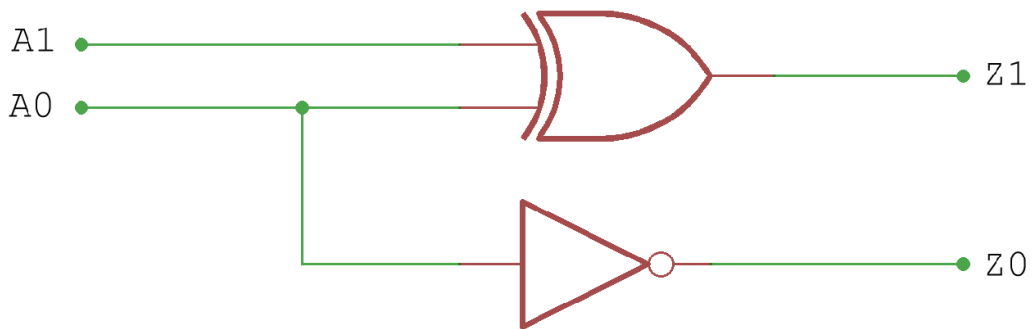
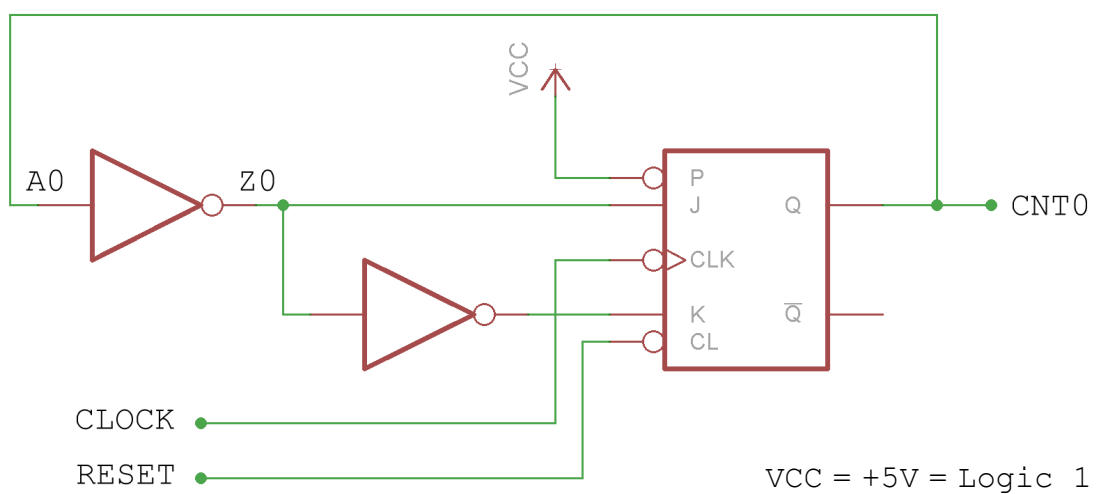
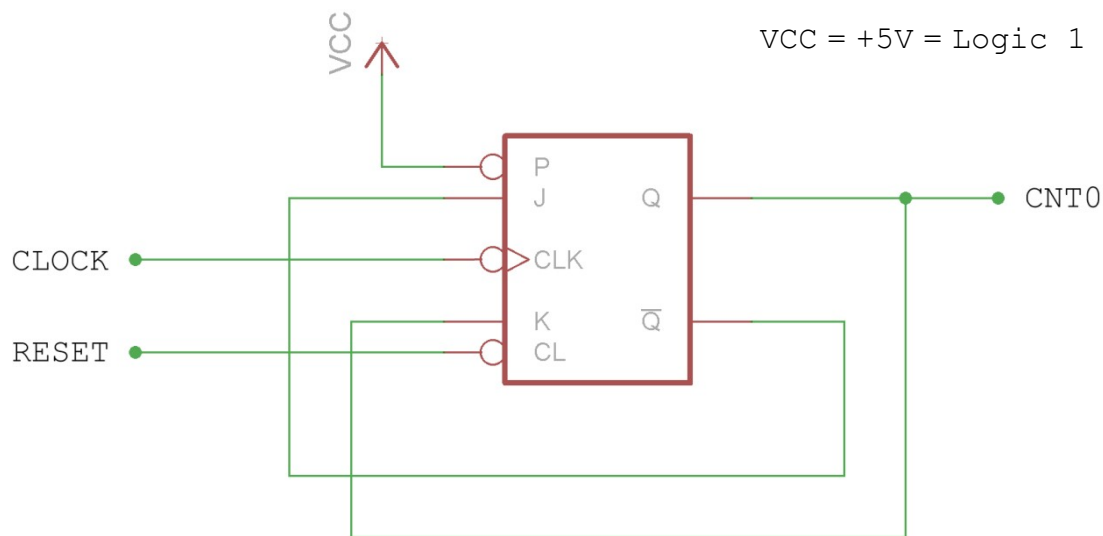
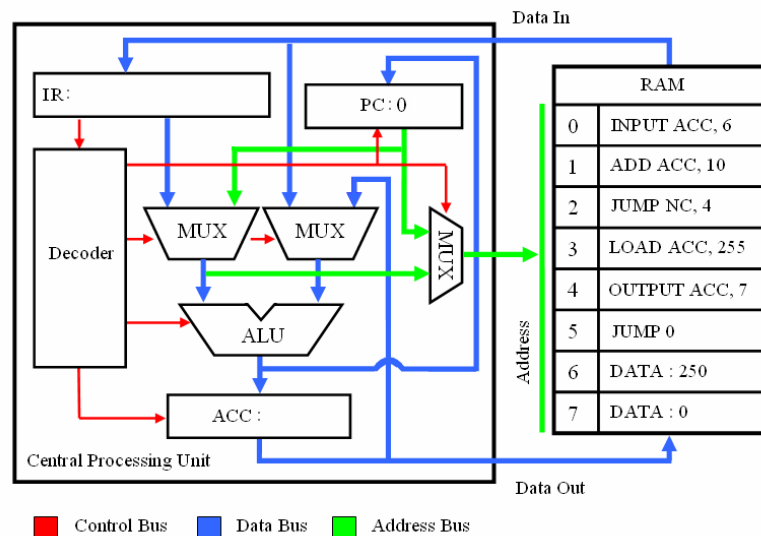

Figure 11: 2bit incrementer
Figure 13 : Counter circuit for bit CNT0
Figure 14 : Alternative implementation for counter bit CNT0
Figure 16 : A typical computer architecture
The required logic gates needed to implement a 2 bit incrementer are shown in figure 11. Do not construct this circuit as we can make some optimisations to reduce the number of components used.
To construct a counter the circuits in figure 11 and 12 need to be combined. Each bit of the 2bit counter i.e. CNT0 and CNT1 will need to be stored in a flip-flop. The combined circuits to implement the least significant digit CNT0 is shown in figure 13. However, using logic minimisation techniques we can reduce the number of logic gates required. The J-K flip-flop already has a inverted output i.e. \bar{Q} . An alternative implementation is shown in figure 14, confirm that the functionality of this circuit is the same as figure 13?
Using J-K Flip-flop FF4 construct the circuit shown in figure 14. Next connect the RESET input to S2 and the CLOCK input to the Q output of micro-switch S6. Finally connect the Q output of FF4 to LED LP1.
The circuit to generate the most significant bit of the counter: CNT1, is an XOR gate, as shown in figure 11. Unfortunately the Logic Tutor board does not contain
Data processing : the simple incrementer circuit shown in figure 11 can be expanded to implement hardware capable of performing addition, subtraction, multiplication and division functions. These functions are normally grouped together within a computer's arithmetic and logic unit (ALU), as shown in figure 16. As computers become more specialised increasingly complex hardware modules are being developed to increase processing performance, however, these are still built upon basic logic gates i.e. AND, OR and NOT gates.
Memory : to perform arithmetic operations a computer must also contain memory, storage locations for the data to be processed and any results produced. These are typically implemented using one or more registers, each storing multiple bits e.g. 8, 16, 32 bit etc. Each bit within a register is stored in a flip-flop e.g. if we have a 8 bit register there will be 8 flip-flops. Registers are classified as special or general purpose. Special purpose registers contain specific information the computer requires to function. These are not generally accessible to the programmer e.g. the instruction register (IR), stores the current instruction being processed, or the program counter (PC), address of the instruction to be executed. General purpose registers contain operands and results processed / produced by the ALU. A computer may have one or more general purpose registers, if it has only one this register is typical called the Accumulator (ACC), as shown in figure 16.
Control : a computer must generate a sequence of control signals (bits), instructing each functional block e.g. multiplexer (MUX), ALU, or register, within the computer what it should do and when it should do it. The 2 bit counter shown in figure 15 is an example of a simple state machine. This functionality can be expanded to control any number of bits, generating any sequence of control signals i.e. a micro-sequencer. This is represented in figure 16 as the decoder block, generating the step-by-step sequence of events (control signals) within the computer to process each instruction.